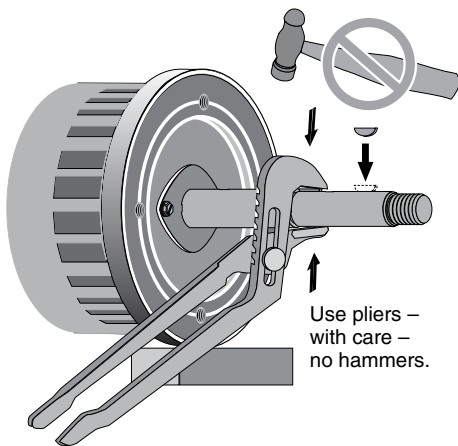

Figure 22
- Step 3. Make sure that the shaft keys are in place on the shaft. If they are not, squeeze them in place now with slip joint pliers. *Do not tap them or hit them with a hammer; you could bend the shaft* (see Figure 22). When the keys are correctly installed, the adapter will pass over the keys without interference.